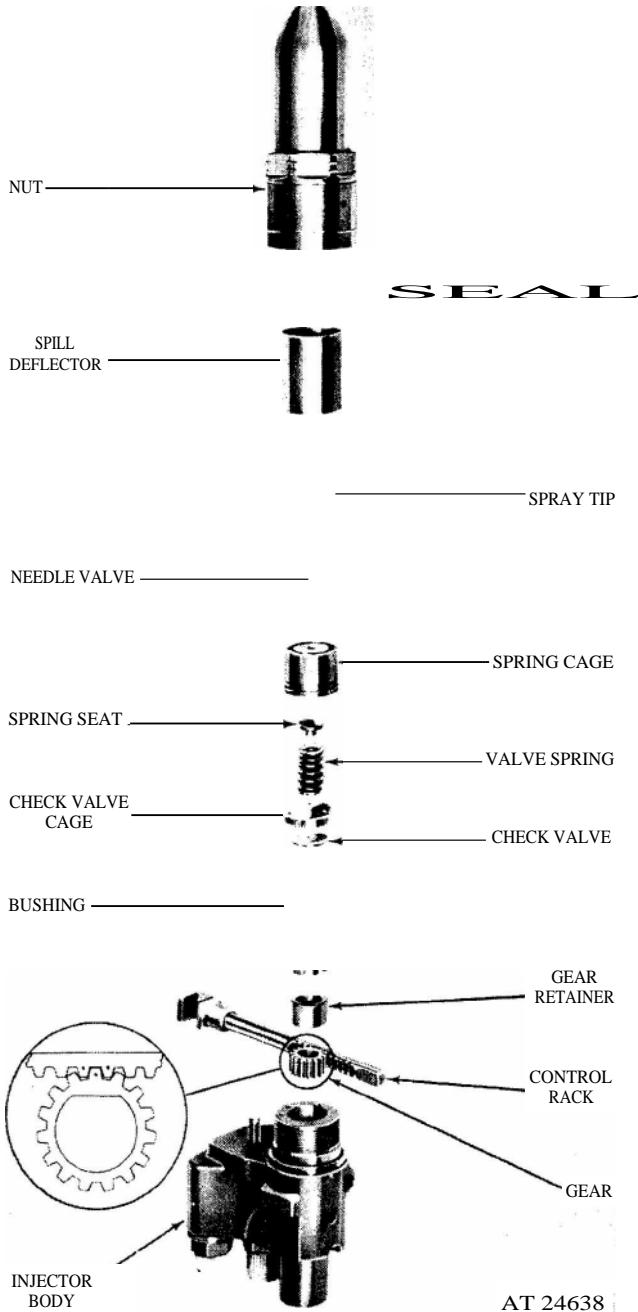

Figure 30. Injector rack, gear, spray tip, and valve assembly details and relative location of parts.
6. Refer to figure 30, and remove the spill deflector. Then, lift the hushing straight out of the injector body.
Refer to figure 30 and note the drill spot marks on the control rack and gear; then proceed as follows:
2. Place the gear in the injector body so the teeth mesh as shown in the inset in figure 30.